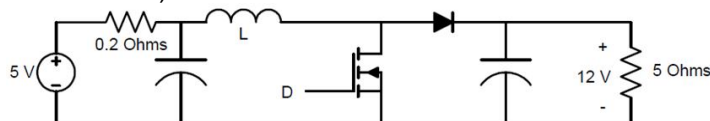

Figure 4.1 Boost converter
3. Figure 4.1 shows a boost (up) converter supplying 12 V to a load of 5  $\Omega$  from a 5 V source having an internal resistance of 0.2  $\Omega$ . Determine the duty ratio D at which the converter operates. (You may neglect semiconductor device drops in your calculations.)